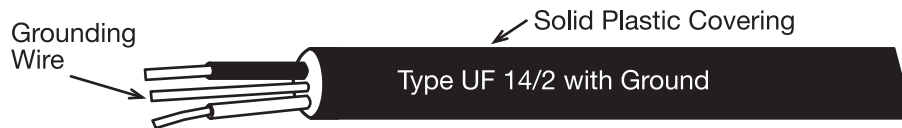

Figure 20. Example electrical cable types.
An underground feeder (UF) cable (Figure 20) can be buried without conduit protection. Physical protection for underground cable is highly recommended to reduce the risk of spading through the cable at a later time. A redwood board buried just above the cable is highly recommended to provide physical protection. Do not use nonmetallic (NM) cable (Figure 20) for underground installations. While it is an excellent material for interior wiring, it will not withstand the moisture conditions in the soil.